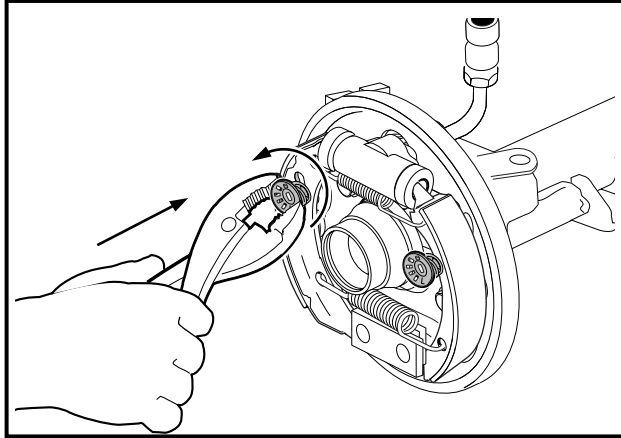

Figure 6-5 Rotate Cup and Spring Assembly
3. Using pliers or a brake tool, rotate the cup and spring assembly 90° and remove the cup and spring from each brake shoe (**Figure 6-5, Page 6-10**).
2. Install the cup and spring assembly (12) onto the pin of the adjuster (3)(**Figure 6-1, Page 6-2**). Compress the cup with a pair of pliers or a brake tool and rotate 90°, securing the brake shoe to the brake cluster backing plate (**Figure 6-5, Page 6-10**).